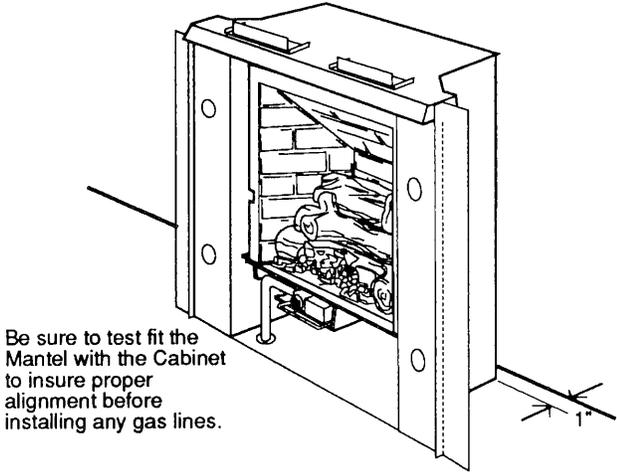

Figure 12. Gas Supply plumbed through floor.
Step 7. Connect the gas supply line to the burner. This may be a flexible line, (not supplied), or hard plumbing. See *Connecting the Gas Supply* on Page 15. Fig. 12 illustrates an example of a supply line plumbed through the floor.